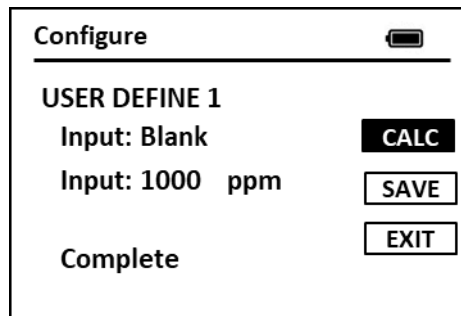

Figure 11
4. After entering the known value of sample as input, press the OK key on the highlighted icon CALC to accept the first calibration solution. The first range calibration is successfully stored as shown in figure 11.